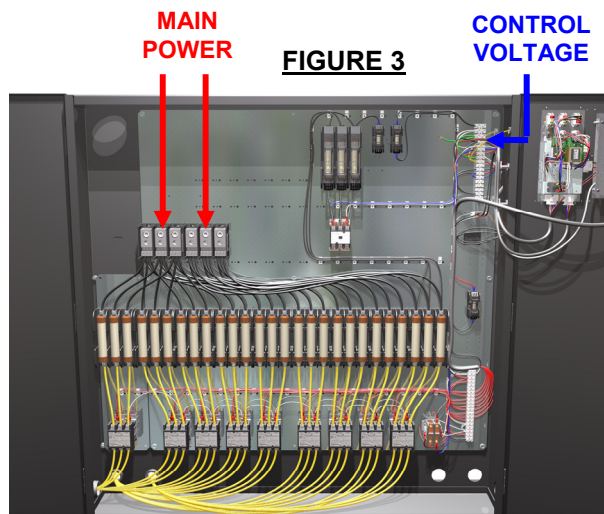

FIGURE 3
**NOTE:** The number and size of electrical power terminals shown in FIGURE 3 vary, depending on boiler nominal voltage and installed heating power